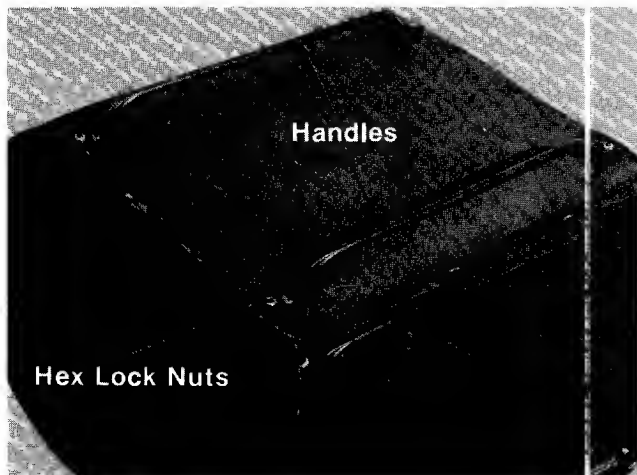

FIGURE 17.
5. Place the grass catcher top side up. Place two handles (AB) in position and secure with four hex lock nuts (V). See figure 17.